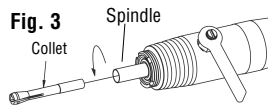

Fig. 3
4. For collet adjustment procedure, proceed to Step 7. To replace the collet, or to remove it for cleaning, unthread the collet completely by turning it counterclockwise – Fig. 3.